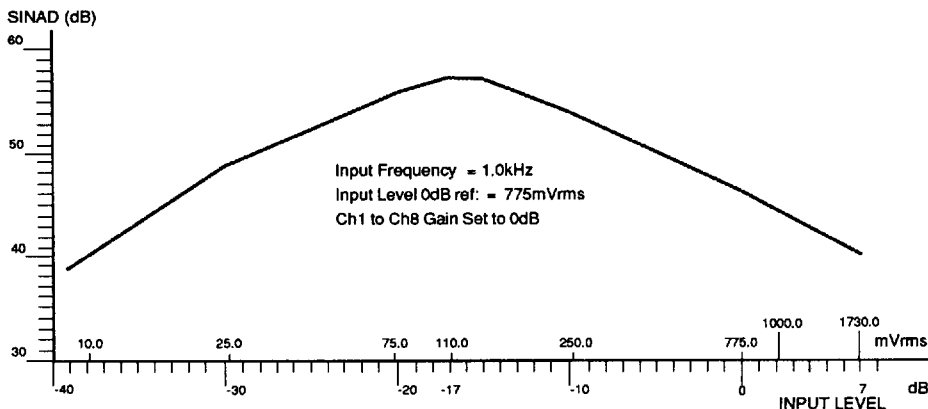

Fig.3 SINAD vs Input Level - Typical Values
- (i) Input signal amplitudes should be applied with due regard to Figure 3.